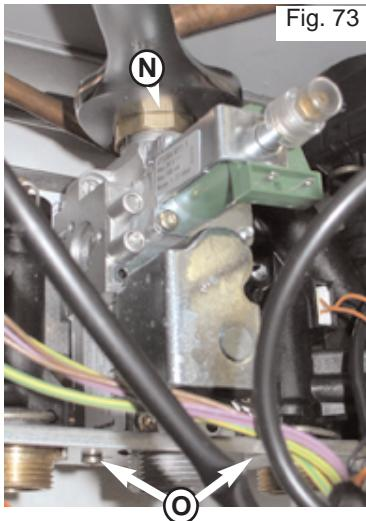

Fig. 73
4. Undo the gas pipe nut "N" (30mm spanner) and the two screws "O" securing the gas valve to the bottom plate, and remove the electrode wire (see fig. 73);